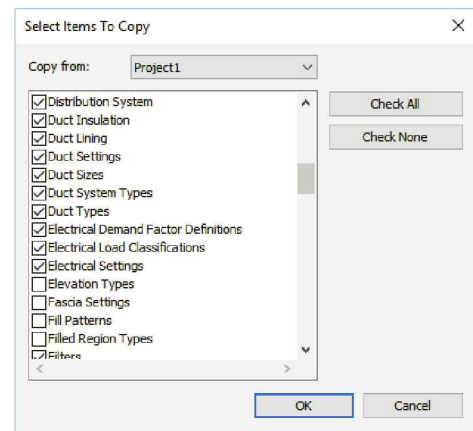

FIGURE 13-2.1 Transfer project settings
8. Check only the boxes for the items listed (Figure 13-2.1):